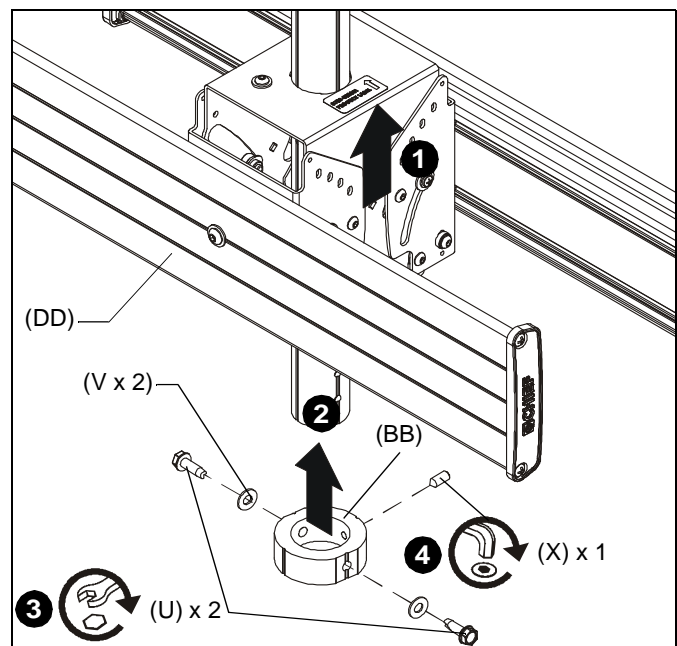

Figure 3
1. Slide ceiling mount (DD) up from below onto installed column (not included). (See Figure 3)
2. Slide bottom stop collar (BB) onto installed column, lining up holes in collar with holes in column.
3. Install two 5/16" x 1" self-tapping screws (U) through two 5/16" flat washers (V), bottom stop collar (BB), and into installed column.
4. Install and tighten 5/16" x 3/4" set screw (X) into bottom stop collar (BB). (See Figure 3)